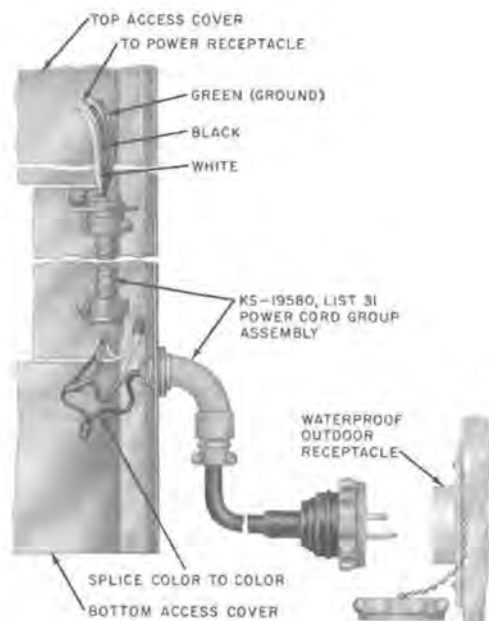

Fig. 19—KS-19580, List 31 Cable and Cord Group for Ground Level Entrance
- 3.11** For ground level entrance with plug-in features, use KS-19580, List 31 power cord group and install per Fig. 19.